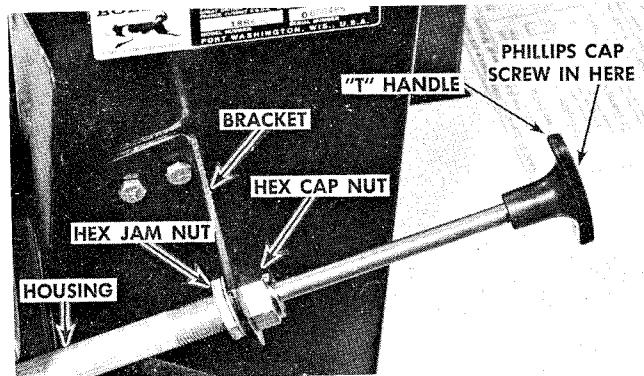

FIGURE 13
13. Remove phillips head capscrew in center of "T" handle. Remove "T" handle and hex nut from cable. Install end of cable into long leg of cable bracket with the short leg of bracket towards handle. Secure with hex nut removed from cable and reinstall "T" handle. See figure 13.